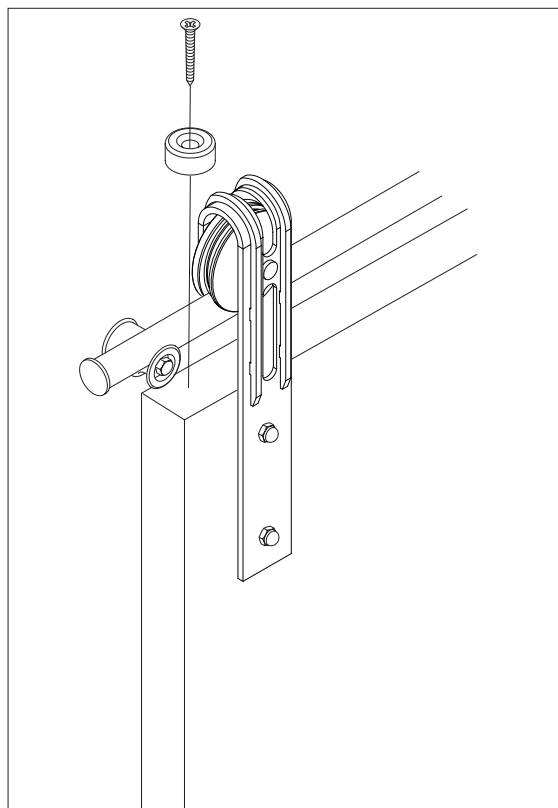

Figure 10
20. Place the Anti-Jump block on the top of the door (Figure 10). Using a drill with a phillips bit, install the the block with the 1" phillips screw (provided).